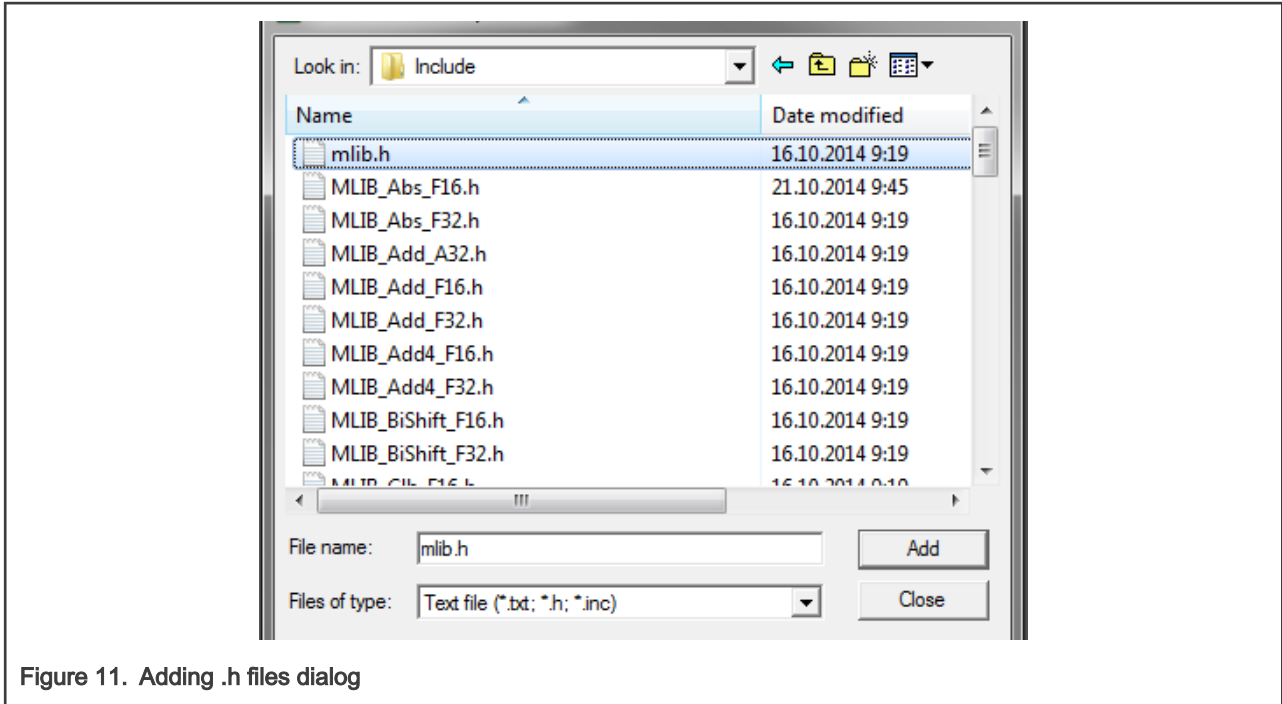

Figure 11. Adding .h files dialog
- Navigate into the library installation folder `C:\NXP\RTCESL\CM4_RTCESL_4.6_KEIL\MLIB\Include`, and select the `mlib.h` file. If the file does not appear, set the Files of type filter to Text file. Click Add. See Figure 11.